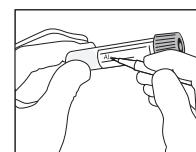

Fig. 4
6. Write patient information on the tube label or apply patient identification label (Fig. 4).